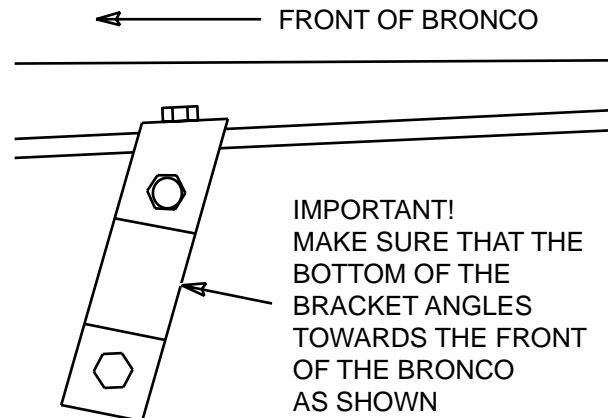

Figure 2
3. Position the large (fender) bracket over the fender mounting hole and secure it finger tight with one of the bolts removed in step 2, making sure the lower leg of the bracket angles towards the front of the Bronco. See Figure 2.
5. Install the 1/4"x20x3/4" bolt thru the bracket and secure it with the washer and nut from the inside (tire) of the fender well. Tighten fender bolt and bracket hardware. See Figure 2.